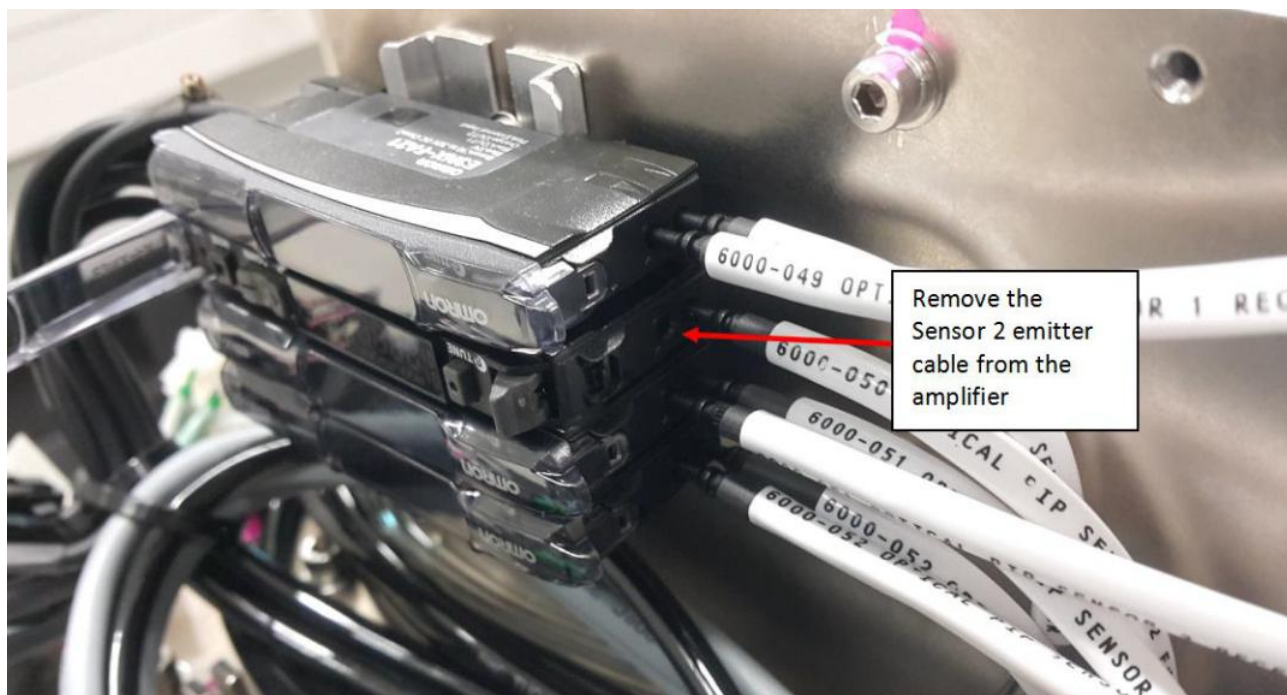

Figure 13 Sensor 2 Emitter Cable
4. Remove SHCS M4×12 (2x) and cable clamp as shown below in Figure 7. Remove entire Sensor 2 Emitter Head cable as shown from Figure 7 to Figure 13.